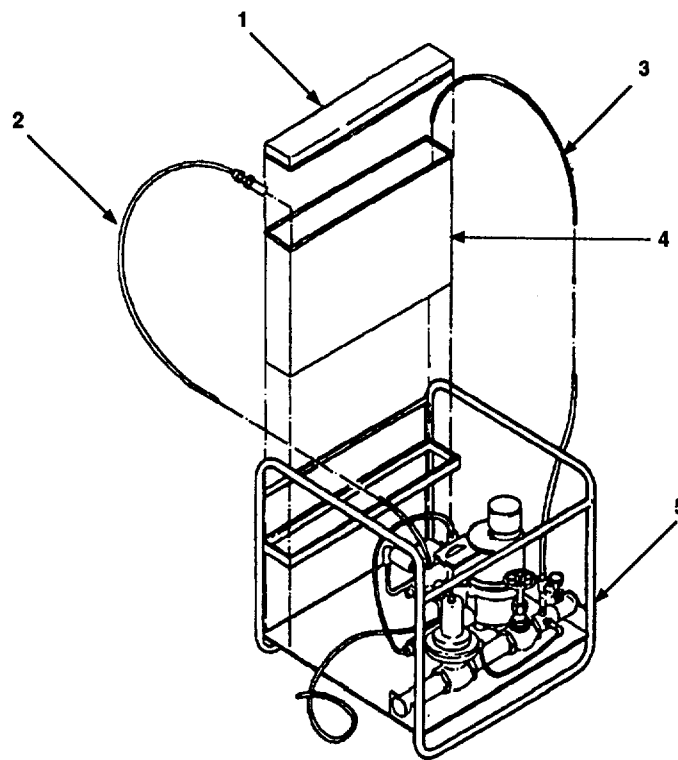

Figure 2-76. Disassembly of Model 1955-1 Hypochlorination Unit.
- (1) Remove reservoir cover (Figure 2-76, 1).
- (2) Remove suction hose (2) and reservoir fill hose (3) from reservoir (4).
- (3) Remove and empty reservoir (4) on hypochlorination unit (5). Rinse reservoir (4) and install on hypochlorination unit (5).
- (4) Place suction hose (2) and reservoir fill hose (3). Install cover (1) on reservoir (4).